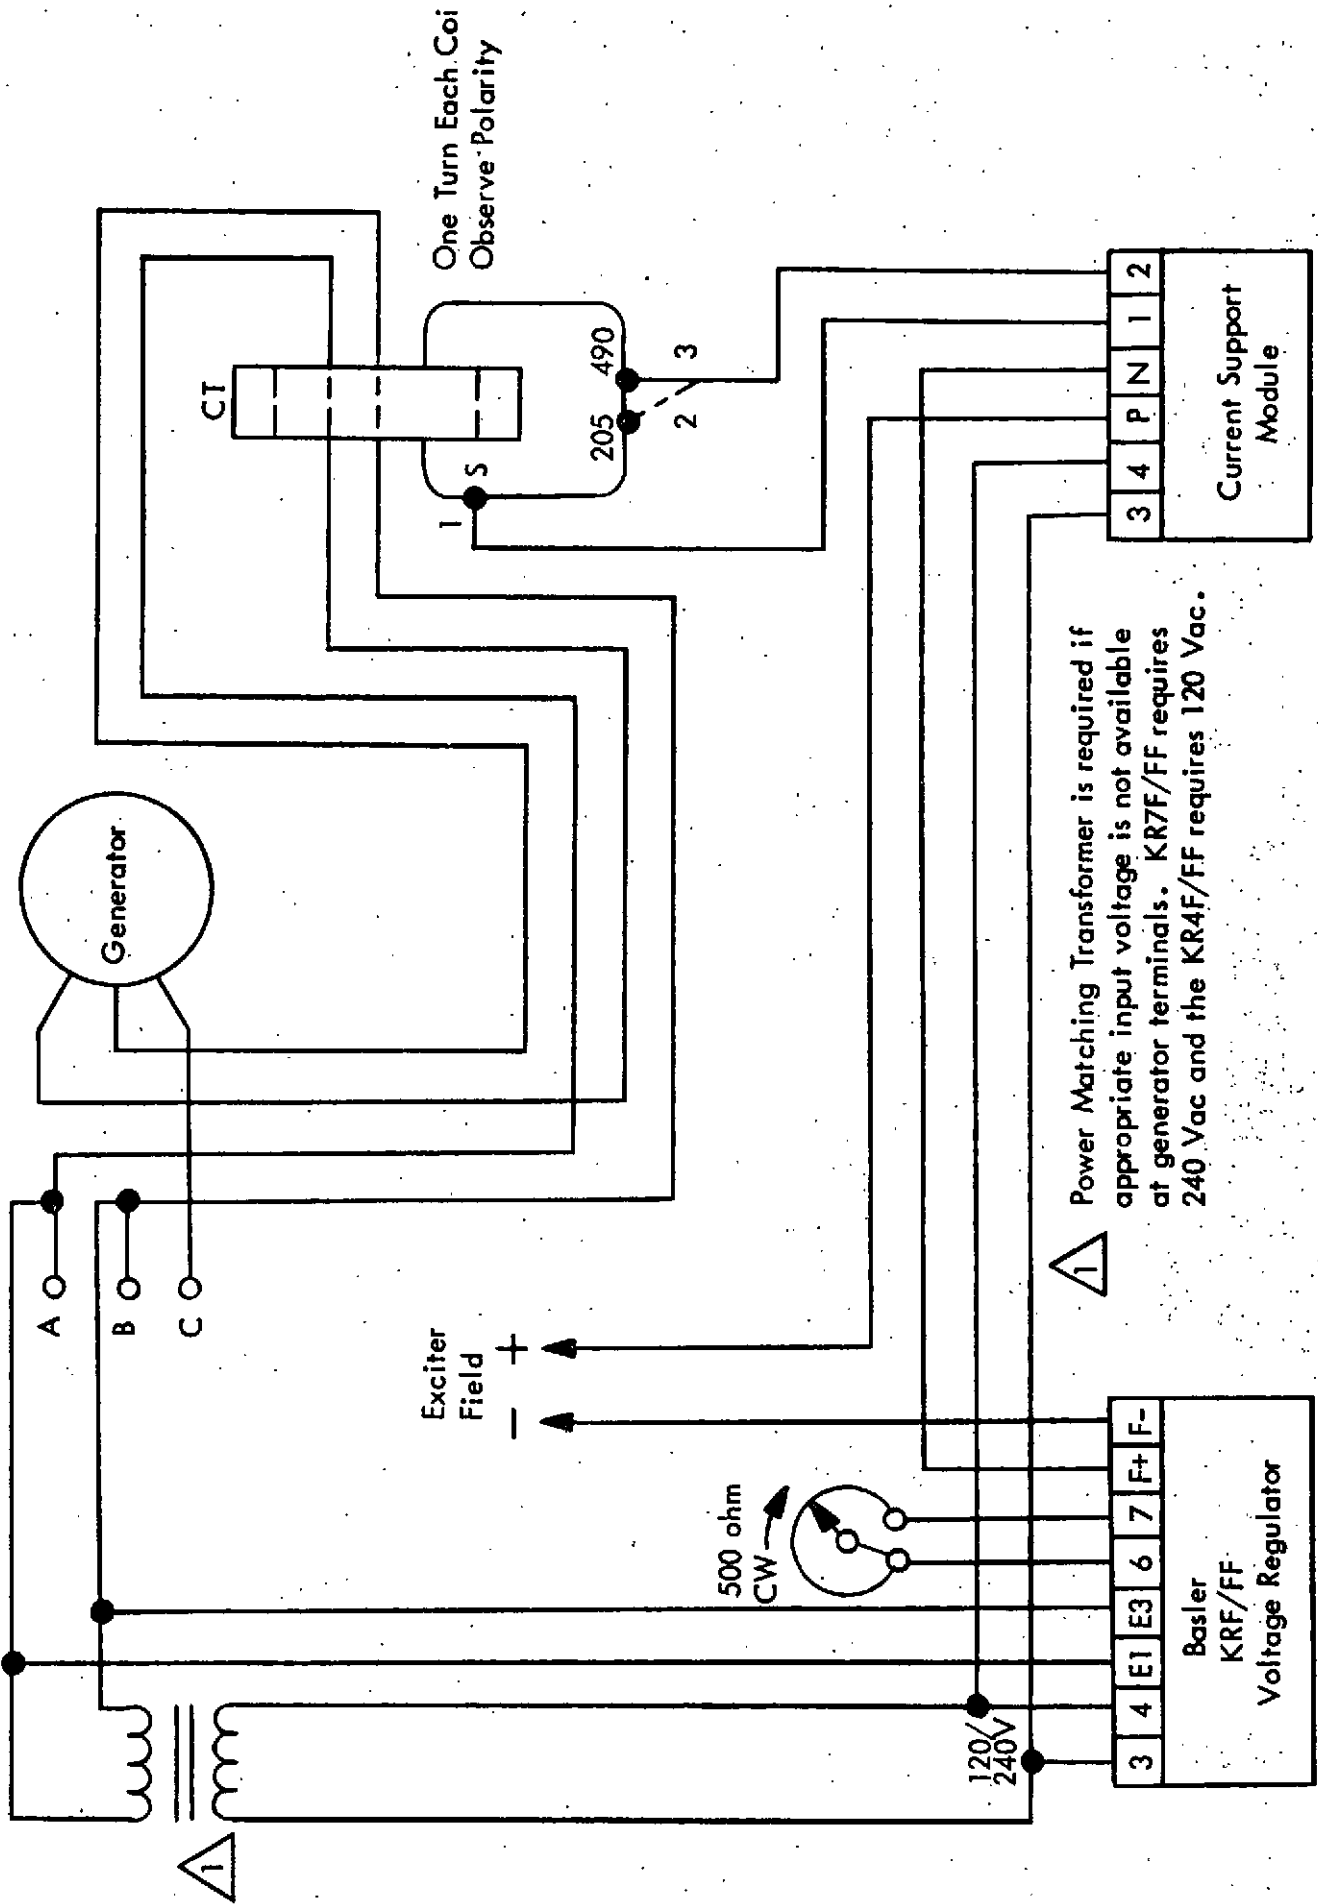

FIGURE 6-3 INTERCONNECTION DIAGRAM FOR CBS 344/377 SYSTEMS
The regulator connects with the generator system as shown on the interconnection diagram, Figure 6-3. Note: Generators employing a fourth wire neutral may not sustain short circuit current between the neutral and the line not being "sampled" by a current transformer.
- Figure 6-3 System Interconnect CBS-344/377.